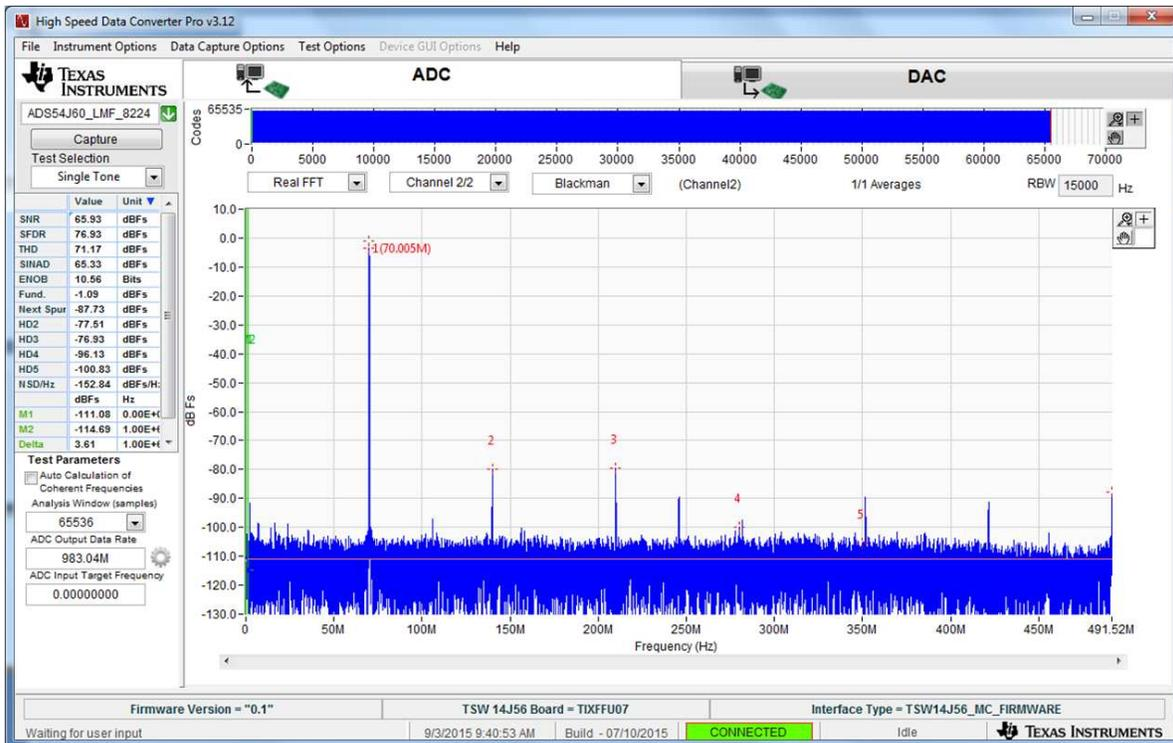

Figure 6. Channel 2 Data Capture Results from Quick Start Procedure
12. The results from the captured data of Channel 2 (LMH6401) should look like Figure 6 and the performance should be similar to Table 1. If this result is not achieved, then see the Quick Start Troubleshooting section of this document. Make sure the fundamental power is less than -1 dBFs. Adjust the gain setting of the LMH6401 or the amplitude of the signal from the source, if needed.